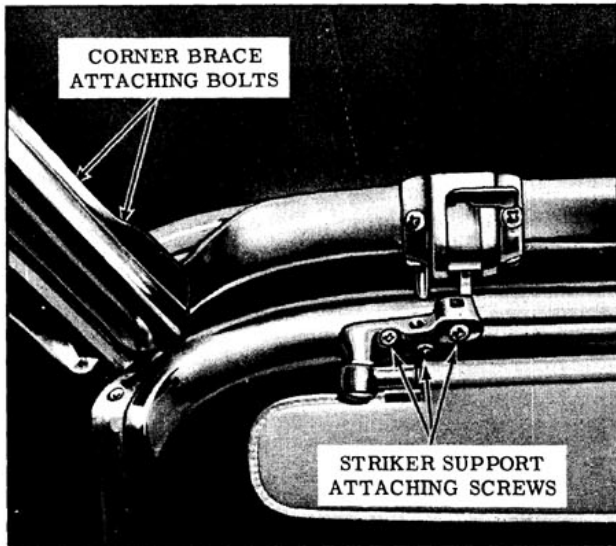

Fig. 16-120 Engaging Roof Header With Striker
2. Loosen striker support attaching screws and adjust striker laterally as required; then tighten attaching screws. (Fig. 16-120)